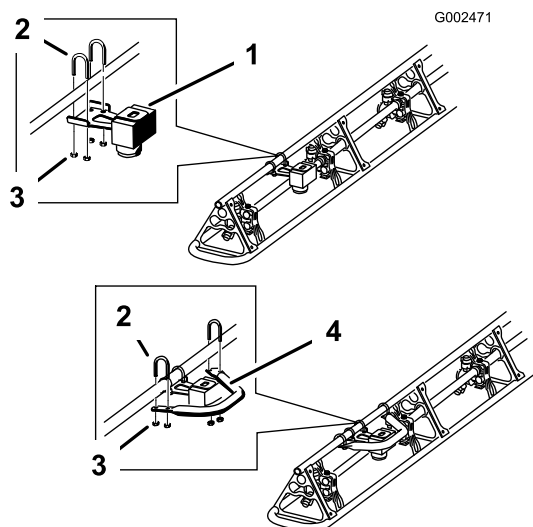

Figure 1
2. Lightly secure the right ultrasonic sensor to the right boom pipe halfway as shown in Figure 1, using 2 U-bolts, 4 washers (5/16 inch), and 4 locknuts (1/4 inch). Do not fully tighten at this time to allow for later adjustment.
4. Install the protection tube around the ultrasonic sensor with the angled side facing inward, toward the vehicle. Lightly secure the protection tube to the boom (Figure 1), using 2 U-bolts, 4 washers (5/16 inch), and 4 locknuts (1/4 inch). Do not fully tighten at this time to allow for later adjustment.